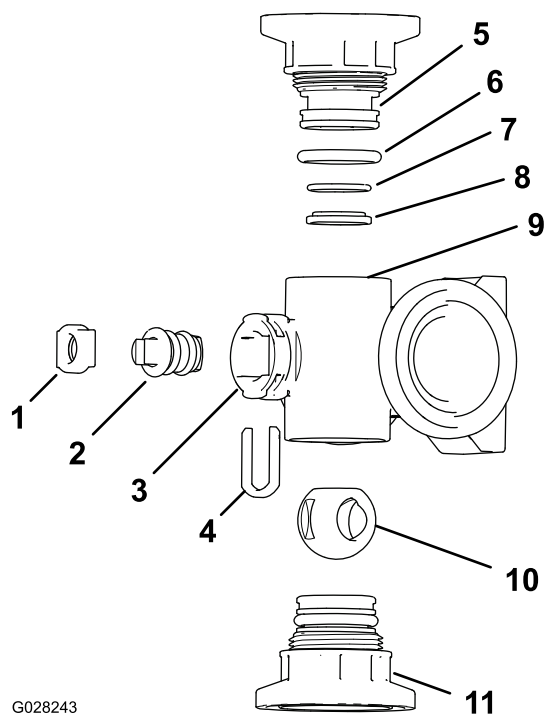
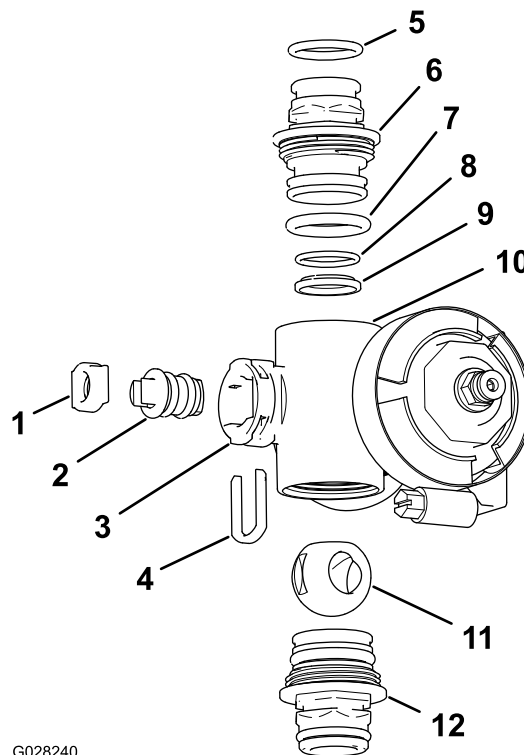

Figure 129
Figure 130
2. Remove the 2 end-cap-fitting assemblies from each end of the manifold body (Figure 129 and Figure 130).
4. Remove the stem retainer from the slots in the stem port in the manifold (Figure 129 and Figure 130).
5. Remove the stem retainer and valve stem seat from the manifold (Figure 129 and Figure 130).
6. Reach into the manifold body and remove the valve-stem assembly (Figure 129 and Figure 130).
1. Check the condition of the outlet fitting O-rings (section valve manifold only), end cap O-rings, back seating O-rings, and ball seat for damage or wear (Figure 129 and Figure 130).
2. Apply silicone grease to the valve stem and insert it into the valve stem seat (Figure 129 and Figure 130).
3. Install the valve stem and seat into the manifold and secure the stem and seat with the stem retainer (Figure 129 and Figure 130).
4. Ensure that the back seating O-ring and the ball seat are aligned and seated into the end-cap fitting (Figure 129 and Figure 130).
5. Install the end-cap fitting assembly onto the manifold body until the flange of the end-cap fitting touches the manifold body (Figure 129 and Figure 130), then turn the end-cap fitting an additional 1/8 to 1/4 turn.